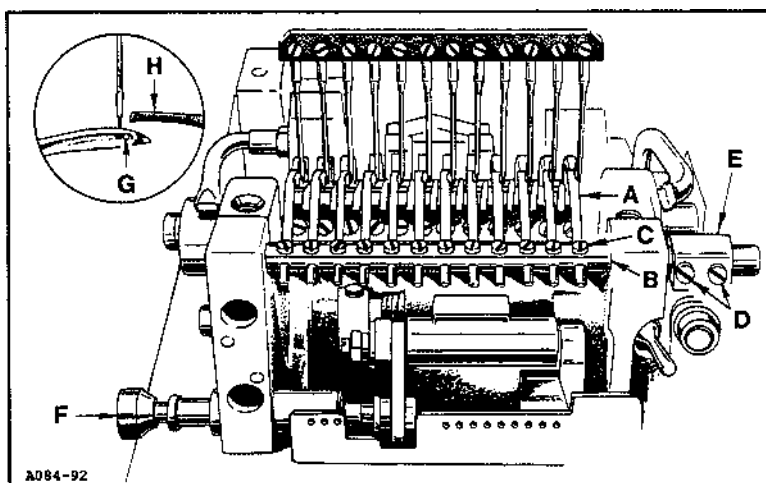

Fig. 9
Insert retainers (A, Fig. 9) into retainer holder bar (B) with the notched ends $1/32"$ (0.8mm) from the needles and the side of the notches facing the needles and tighten screws (C).
To adjust the retainers from the right to left turn the handwheel in operating direction with the loopers travelling toward the operator. Position looper eye (G, Fig. 9 Inset) directly below the point of retainer (H).
Loosen screws (D, Fig. 9) and move retainer holder bar (B) right or left so the point on the right side of the retainer is in the center of the top of the looper blade at the eye. Tighten screws (D) and recheck to make sure loopers do not hit the underneath side of the retainers.